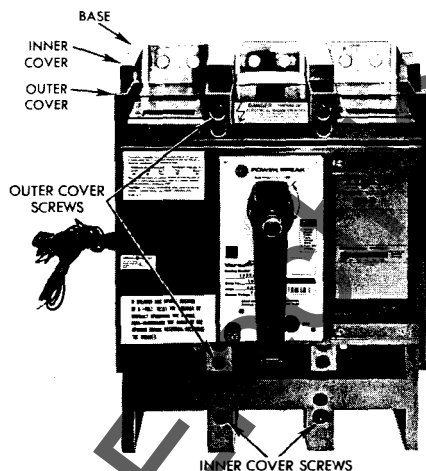

FIG. 19. 1600-2000A FRAME ELECTRICAL BREAKER
1. 1600-2000A Frames only—Remove two inner cover mounting screws. (See Fig. 19).